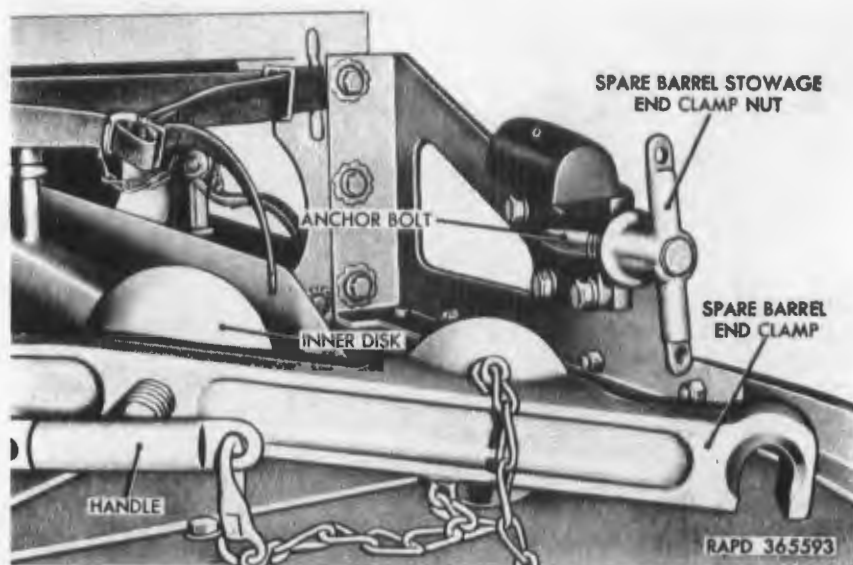

Figure 241. Spare barrel end clamps.
a. Removal. The two spare 40-mm gun barrels are stowed in stowage racks above the left fenders. Disconnect chain snap and loosen spare barrel clamp (fig. 240) by turning the spare barrel stowage clamp nuts counterclockwise and swinging the saddle clamp off the gun barrel. Loosen retaining strap at the muzzle end of barrel. Loosen spare barrel stowage end clamp nut (fig. 241) and swing forward. Slide barrels forward and out of stowage tray.
b. Installation. Make sure that gun barrel covers 7038008 are secured on barrel. Slide barrel, muzzle end first, onto stowage tray in approximate stowage position with clearance between muzzle end of barrels and rear shield of ammunition stowage box. Place open end of end clamp assembly over anchor bolt (fig. 241). Turn end clamp nut (fig. 241) clockwise until outer disk on end clamp contacts breech end of outer spare barrel. Turn handle on inner disk (fig. 241) of end clamp clockwise until inner disk contacts breech end of inner spare gun barrel. Swing saddle clamps (fig. 240) over spare barrels and tighten the spare barrel stowage clamp nuts. Engage snaps on chains in nearest hole in spare barrel stowage clamp nuts. Tighten spare barrel end clamp nut and inner disk handle (fig. 241) until disks on end clamp are rigid against breech ends of spare barrels. Engage snaps on chains in handle of inner disk and in end clamp nut. Install and tighten spare barrel strap over muzzle end of spare barrels.